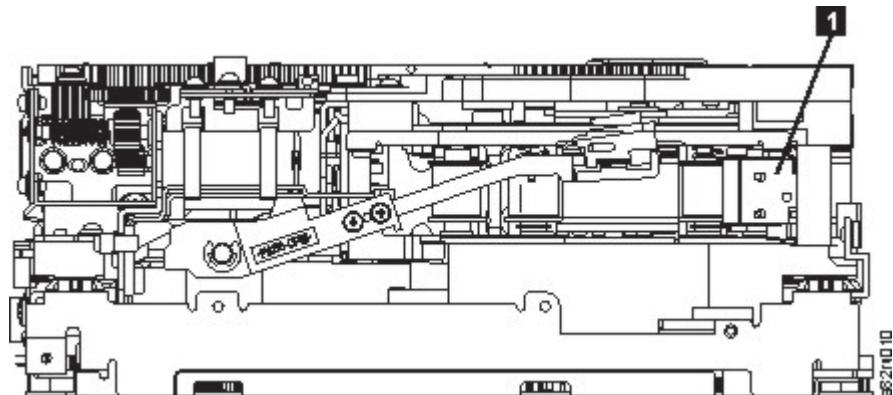

Figure 128. Leader Block Assembly (LBA)
- Rotate the threader motor worm gear (4 in Figure 127 on page 252) to turn the threader mechanism gear (6 in Figure 127 on page 252) counterclockwise. This action moves the LBA out of the cartridge and past the read/write head. Stop this rotation when the LBA is near the tape guide roller nearest the rear of the drive that is shown as 1 Figure 128 on page 253.